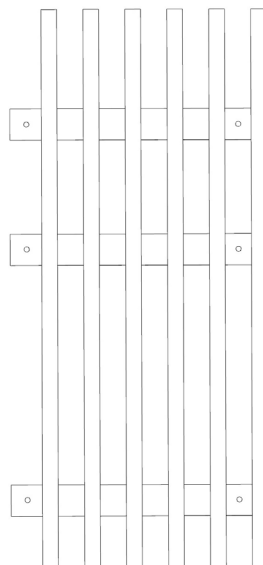

Figure 5. Pre-drilling of ELEMENT panels.
Pre-drill the wood backers of each panel with a countersink bit to prevent splitting and facilitate installation. Drill holes in every other wood backer. It is recommended to pre-drill in two (2) places on each wood backer of each panel (Fig. 5).